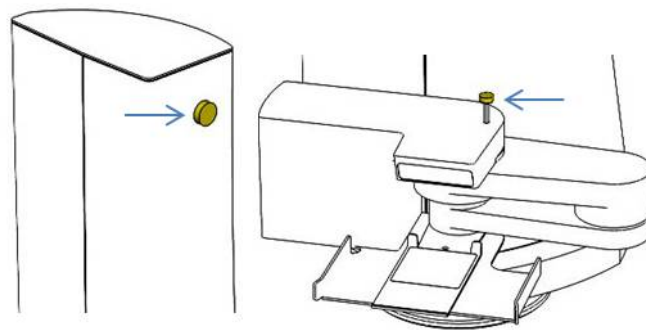

Figure 11: Shipping lock screws securing the mover
- b) Mount the two shipping lock screws that secure the mover during transport as shown in Figure 11.